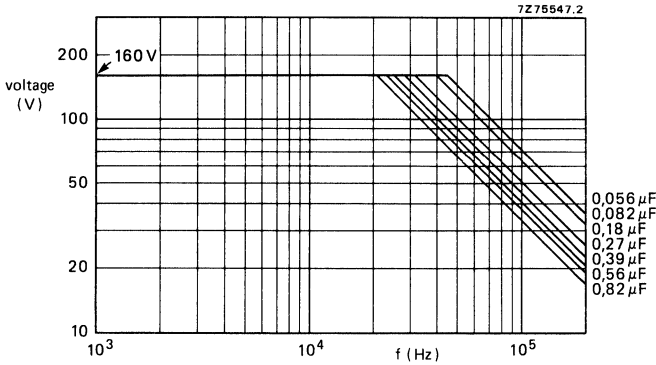

Fig. 3 Maximum a.c. voltage (r.m.s. value) as a function of frequency at $T_{amb} \leq 45 \text{ }^\circ\text{C}$.
* At $T_{\text{amb}} \leq 45$ °C the maximum permissible sinusoidal voltage can be found in Fig. 3.